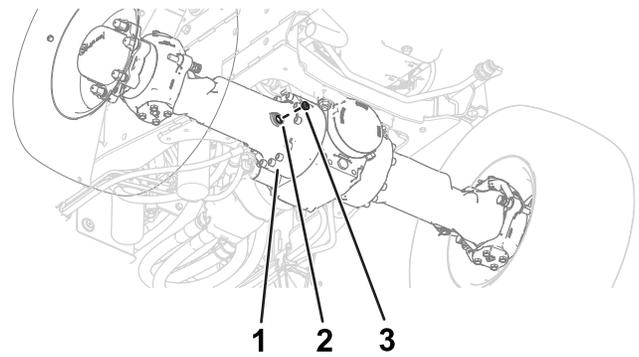
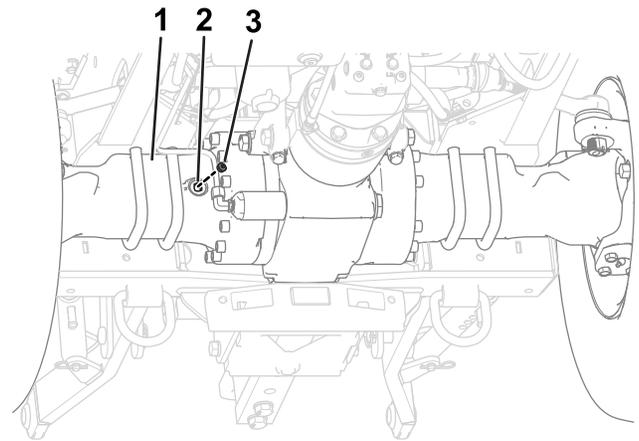

Figure 97
Figure 98
- Remove the plugs from the sight port in the differential housing of the axle (Figure 97 and Figure 98).
- Look through the sight port and check that the oil level in the axle is level with the bottom of the threads of the port (Figure 97 and Figure 98).
- Install the sight plug into the sight port in the differential housing of the axle (Figure 97 and Figure 98).
Note: Refer to Figure 98 for the rear-axle sight port.